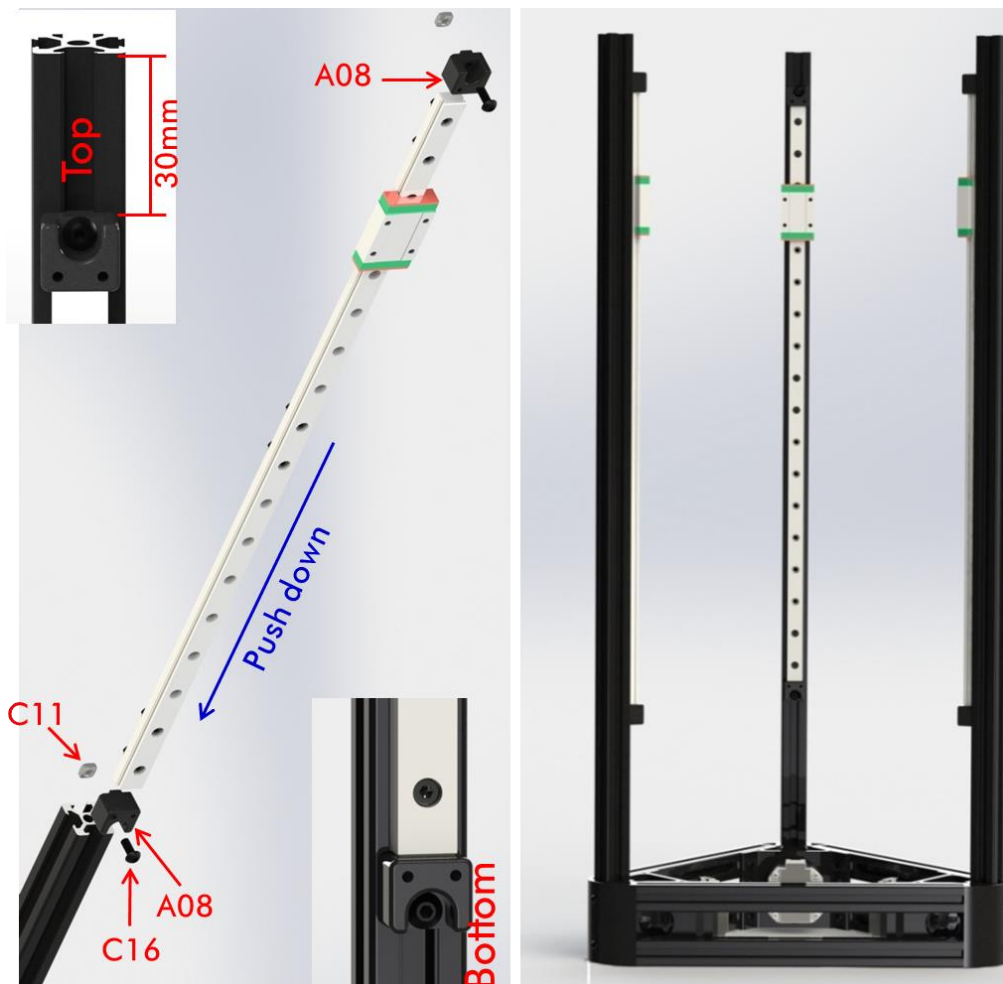

Fig. 13
Step 2. Prepare 2 pieces of stop blocks (A08) with C16 and C11. Then push down one of the stop blocks, the linear rail, and the other stop block sequentially along with the long Al-extrusion as shown in Fig. 13. The suggested distance between the stop block and the top of the long Al-extrusion is 30mm. Do the same to the rest of the 2 long Al-extrusions.